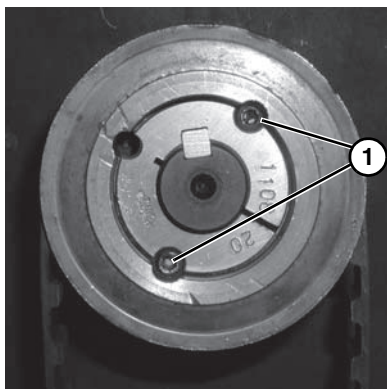

Figure 10
8. Tighten driven pulley taper-lock screws (**Figure 10, item 1**).